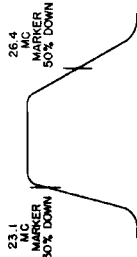

FIG. 5
7. Tune sweep generator to 24 MC. with 10 MC. sweep and view response curve of the video IF transformers. See Figure 5 for desired overall response curve. If necessary, readjust slug on T6 slightly to obtain this result. Note, also, that the curve should be symmetrical and band width should be approximately 3.3 MC. The band width may be checked by varying the frequency of the marker signal until it indicates 70% response on the opposite side of the curve. The difference between this frequency and 26.4 MC. should be approximately 3.3 MC. If necessary, make slight readjustment of slugs on T4, T8, T9 to obtain the required curve result.